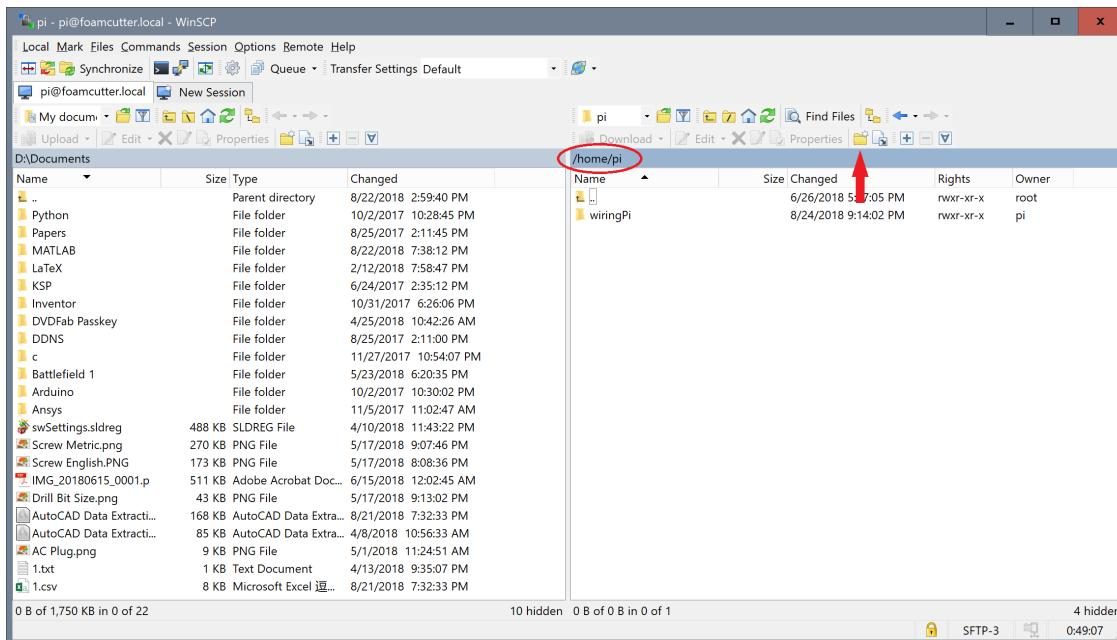

Figure 1.15: WinSCP Window
5. Open WinSCP, a window similar to fig 1.15 below should show up. The left hand side are folders and files on your computer, while the right hand side is files on the Pi. Make sure the right hand side is in the folder “**/home/pi**”, if not, navigate to it. To create new folder on the Pi, use the “**new directory**” button. To upload files from your computer to the Pi, simply drag the file/folder from the left half to the right half.